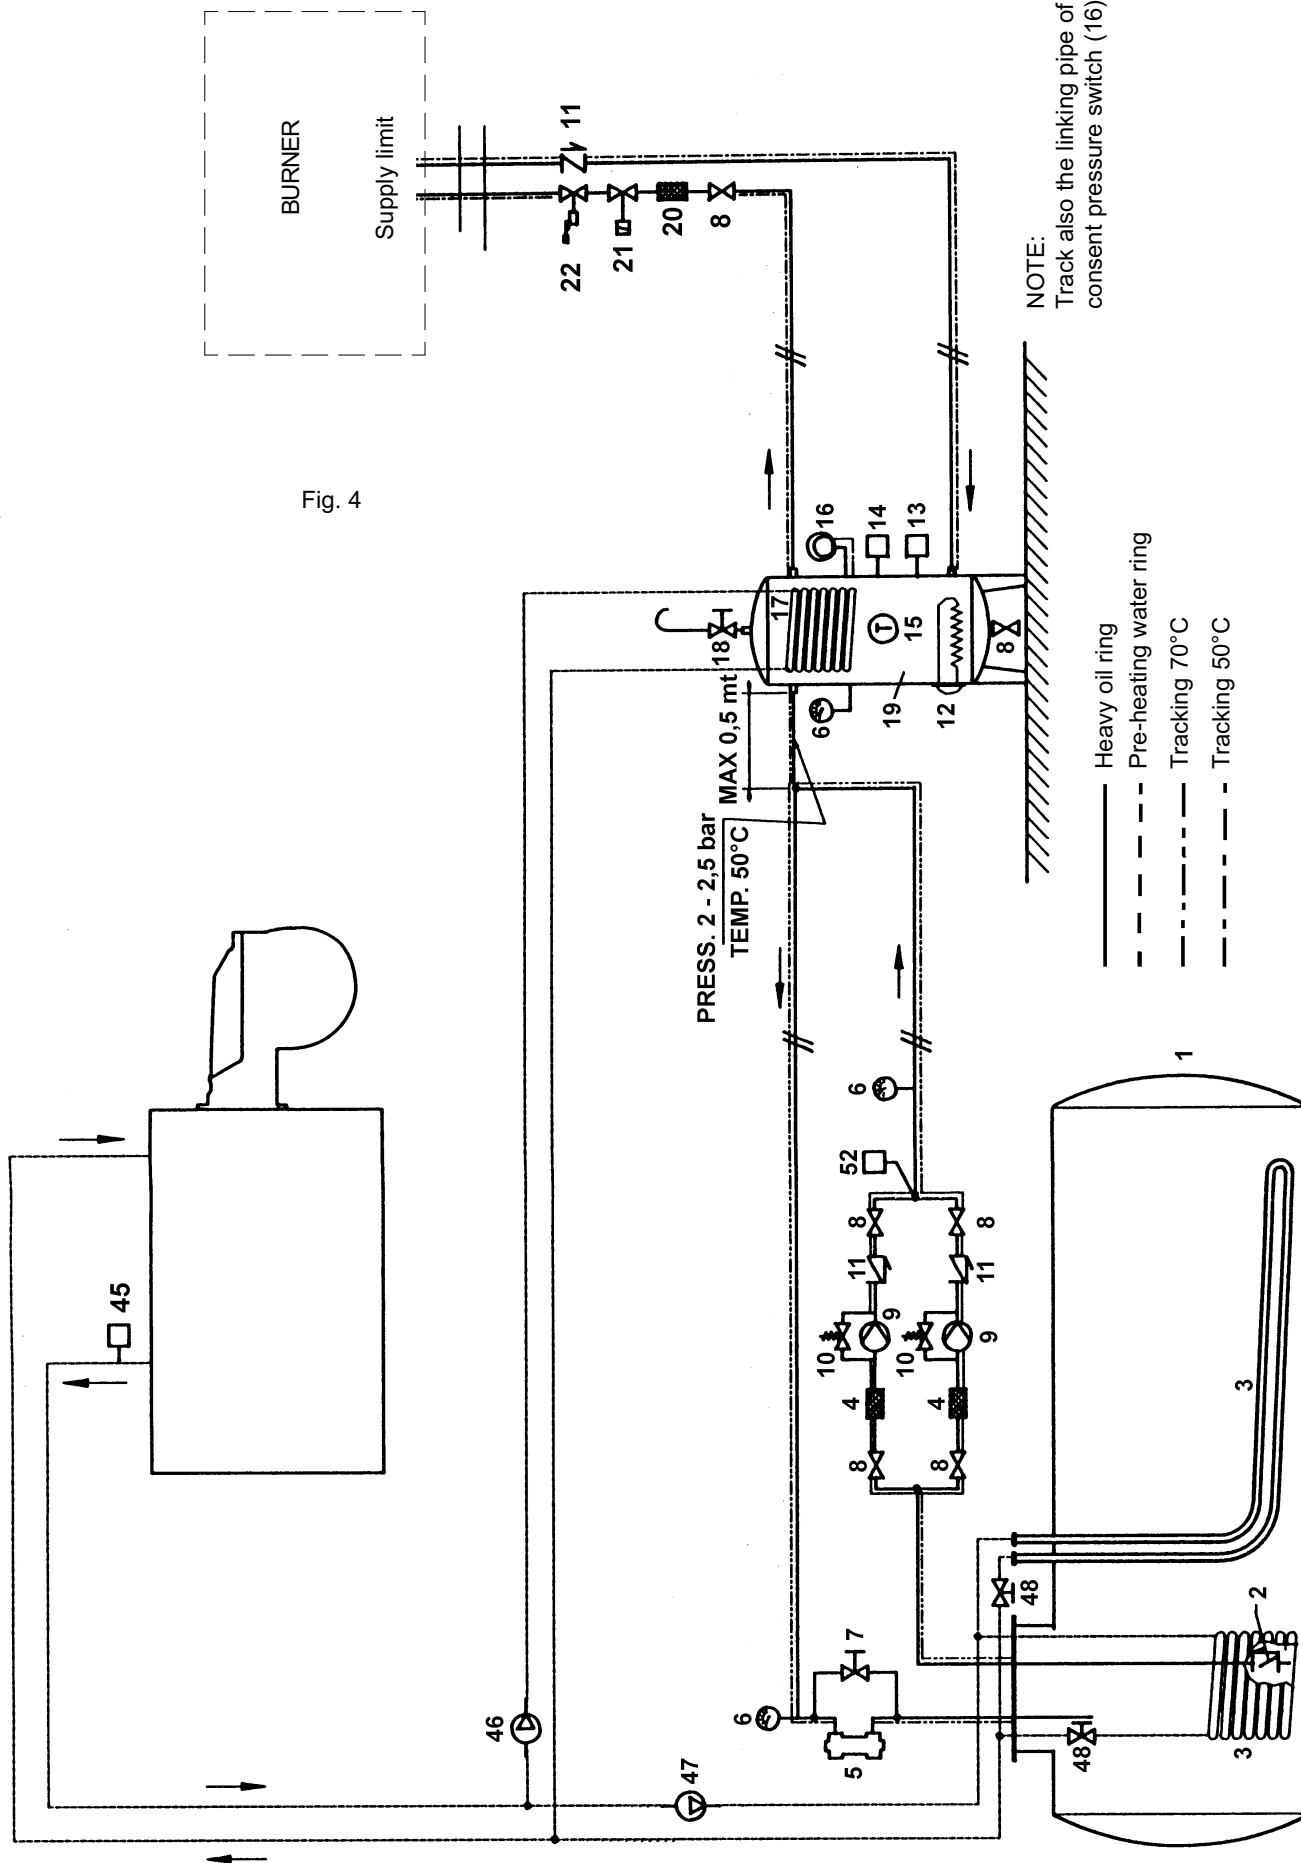

Fig. 4
- Carry out electrical connections to the multiple connector, supplied with the burner, according to the diagram shown in fig. 4.